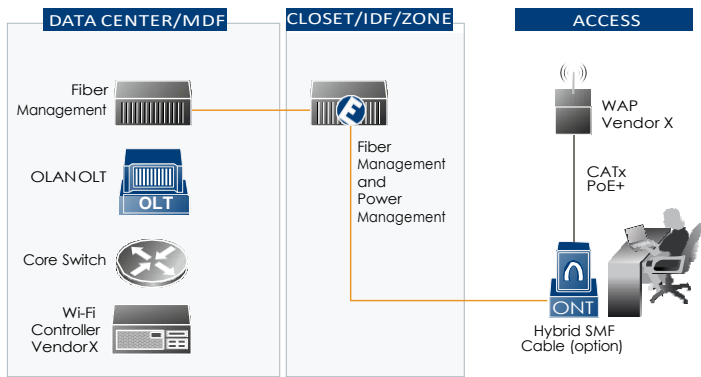

Figure 6: Wi-Fi over Optical LAN architecture
**Wireless** — Passive Optical LAN can also be used for wireless backhaul transport of the access points traffic. It can do so in two architectures. First, there is the stand-alone static Wi-Fi architecture with no robust controller functionality. In this scenario, Passive Optical LAN can provide the benefits of lower equipment cost, reduced energy and collapsed cabling infrastructure. There are also wireless access point (WAP) features and functionality integration that can be accomplished with Passive Optical LAN via the centralized management platform. Passive Optical LAN provides a greater system reach for improved performance and coverage for Wi-Fi service. As Passive Optical LAN interoperates with established Wi-Fi vendors, it allows for Wi-Fi controller functionality to be provided by best-of-breed Wi-Fi manufacturers without limiting the customer's options [Figure 6]. The controller functionality adds dynamic provisioning, interference correction, load balancing and coverage optimization as is required in a true enterprise deployment. Today, there is Passive Optical LAN deployment with industry leaders like Cisco, Aruba, ruckus and Meru.